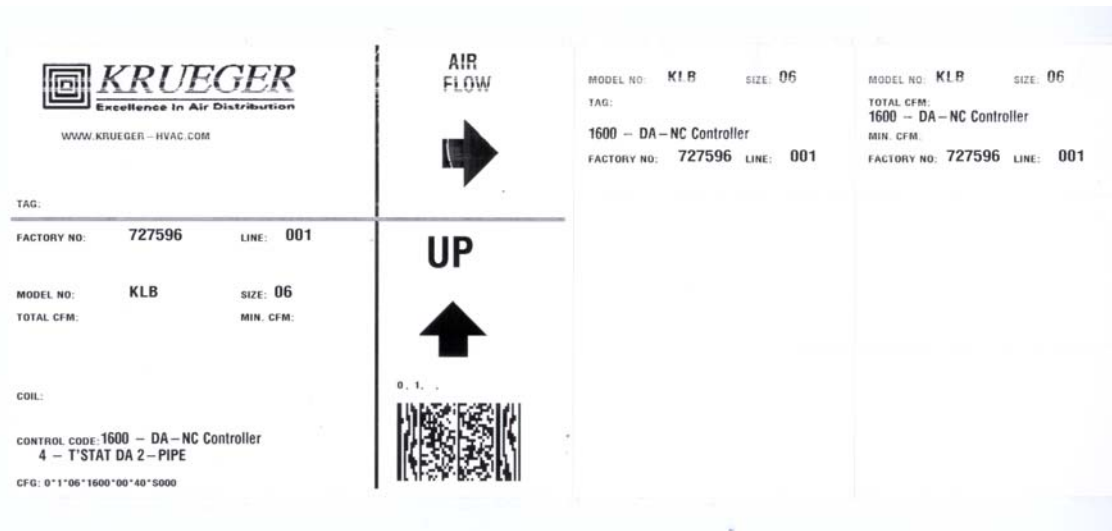

Figure 2 – Unit Identification Label
**UNIT IDENTIFICATION** — Each unit is supplied with a shipping label and an identification label (Fig. 2).